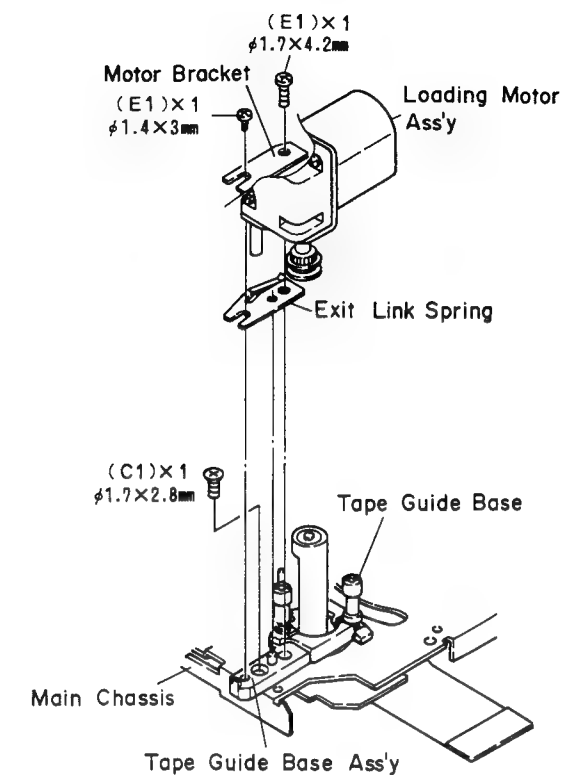

Figure 28-1
## REPLACING THE CAPSTAN MOTOR ASSEMBLY AND CAPSTAN BELT (Fig. 28-1, 28-2, 29-1)
2. Remove the loading motor assembly set screw (E1), 2 pcs. (Fig. 28-1)
3. Remove the loading motor assembly from the tape guide base assembly. (Fig. 28-1)
5. Remove the tape guide base assembly set screw (C1), 1 pc., and remove the tape guide base assembly. (Fig. 28-1)